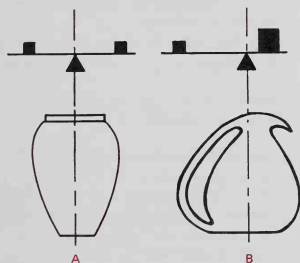

Fig. 2-5 (A) Symmetrical balance. (B) Informal balance.
Symmetrical Balance occurs when the parts on each side of the center are alike in shape and size. See Fig. 2-5 (A).
Informal Balance occurs when the design is such that the balance cannot be measured or laid out with a ruler, and yet you get the feeling that it is balanced. See Fig. 2-5 (B). A design with informal balance usually is more interesting than one with symmetrical balance.